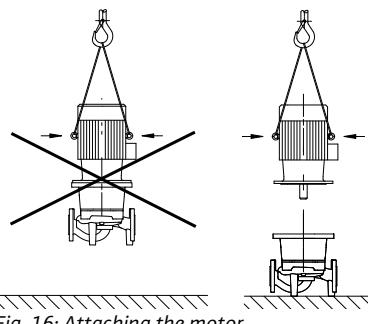

Fig. 16: Attaching the motor
- Only use lifting eyes on the motor for carrying the weight of the motor and not for carrying the entire pump (Fig. 16).**